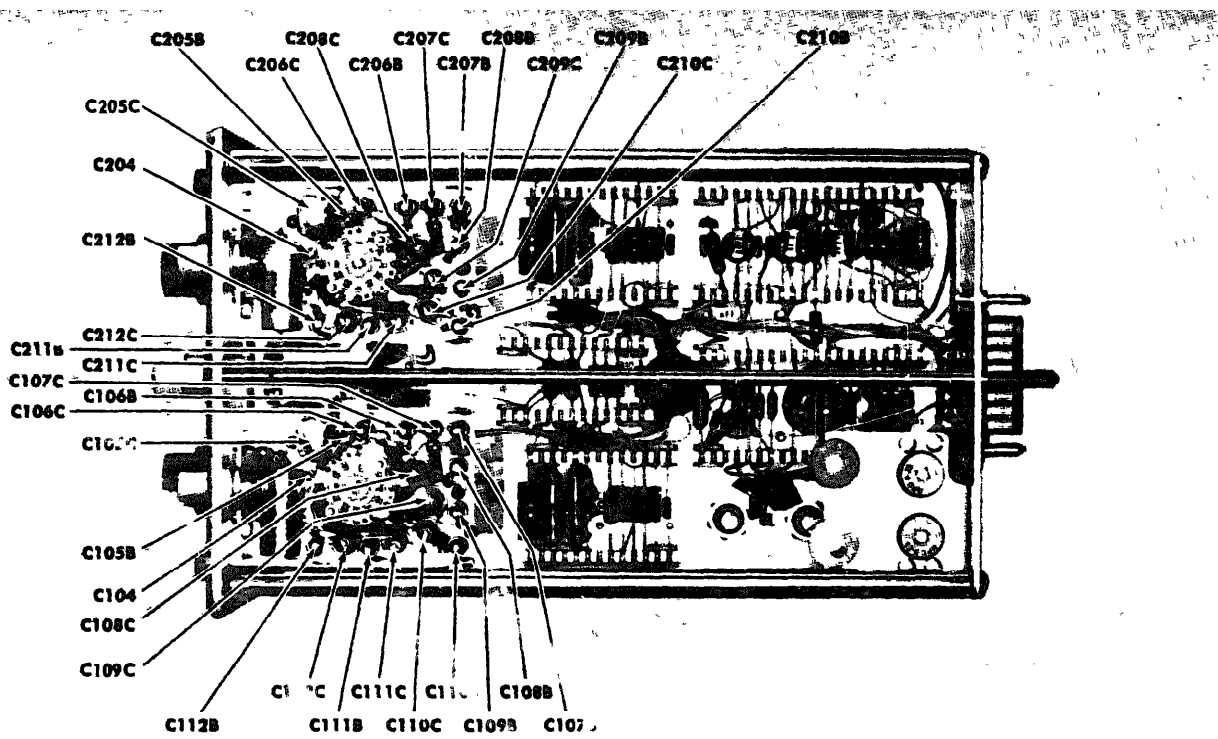

Fig 7-12 Location of input and attenuator compensation adjustments
g. Adjust input Shunt Capacitor for Optimum flat top at each VOLTS/CM switch setting using Table 7-2 See Fig 7-12 for the location of adjustments
j. Adjust-Frequency Compensating Capacitor for optimum square corner and flat top at each VOLTS/CM switch setting using Table 7-2 See Fig 7-11A for waveform and Fig 7-12 for location of adjustments It will not be possible to maintain the 4 cm amplitude at the 5, 10 and 20 VOLTS/CM switch positions)
m. Perform steps 19d through k adjusting the Channel 2 capacitors using Table 7-2 Location of adjustments is shown in Fig 7-12.